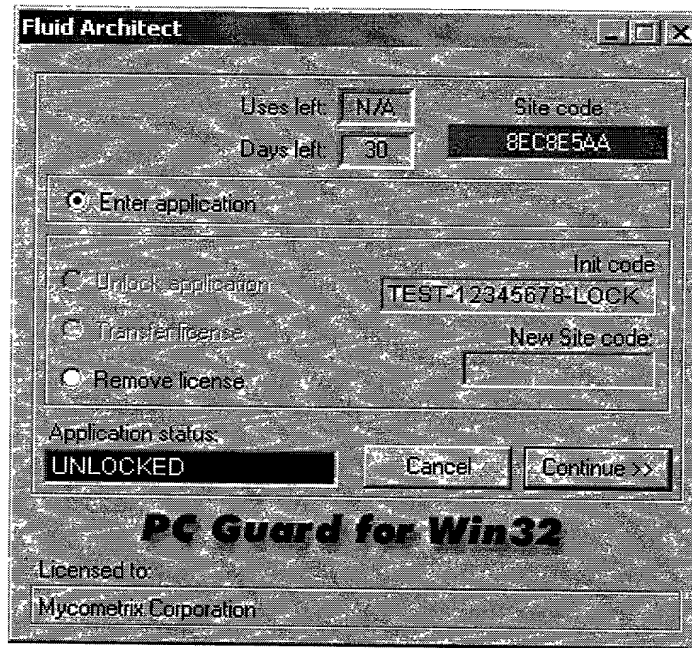

Figure 2 – Dialog to Enter the Init Code
2. Enter the 16 digit alphanumeric string EXACTLY as it is shown in the email including the “-” character which separates the strings. See Figure 2. In this case the Init code of *TEST-12345678-LOCK* was entered.